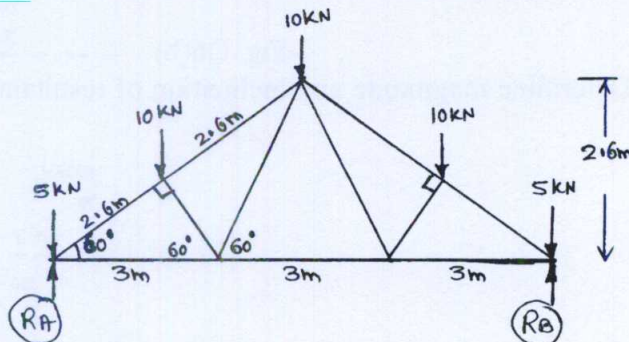

Fig. Q10(b)
b. Determine support reaction analytically for the shown truss. Fig. Q10(b). (15 Marks)